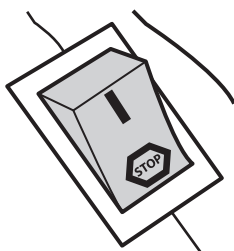

Fig. 17
b). Set the ignition switch (A19) to its off position **“STOP”**. (See Fig. 17)